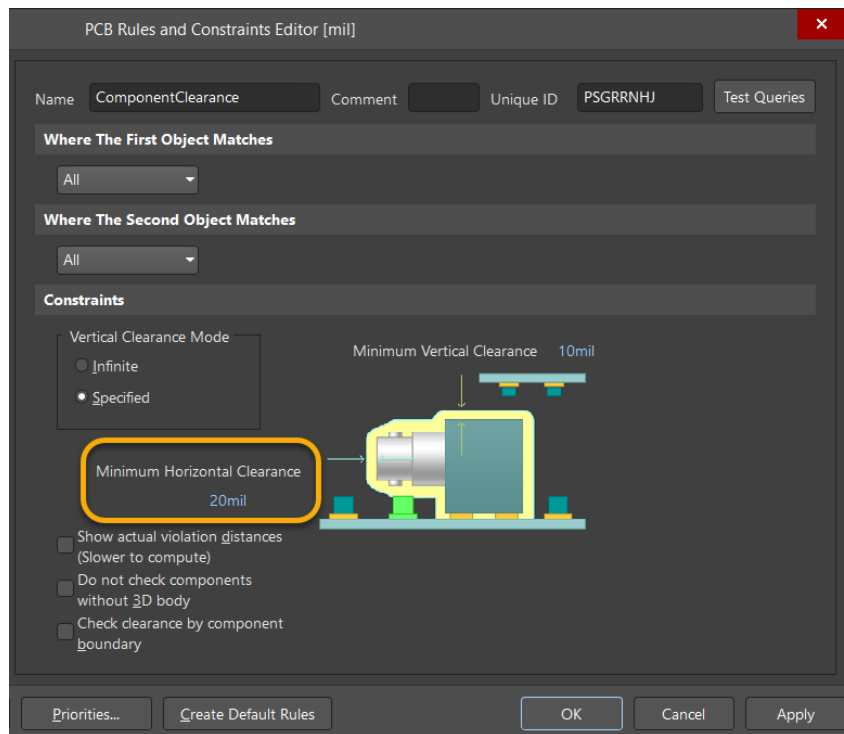

Figure 18. Editing the Component Clearance design rule
41. Notice the **Minimum Horizontal Clearance** is set at 20mil as shown in Figure 18.